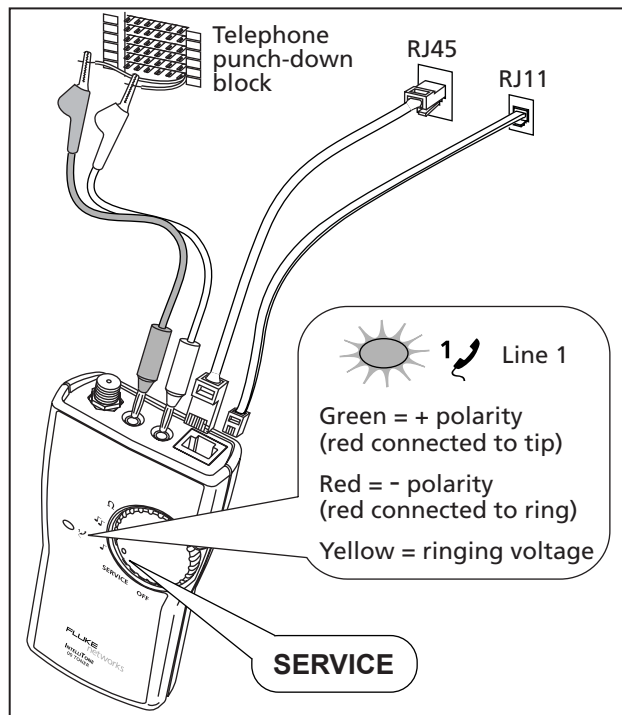

Figure 2. Validating Telephone Service and Polarity
2. Connect the toner to the circuit as shown in Figure 2. Disconnect unused test leads and connectors from the toner.
4. The LEDs indicate telephone service and polarity as shown in Figure 2.